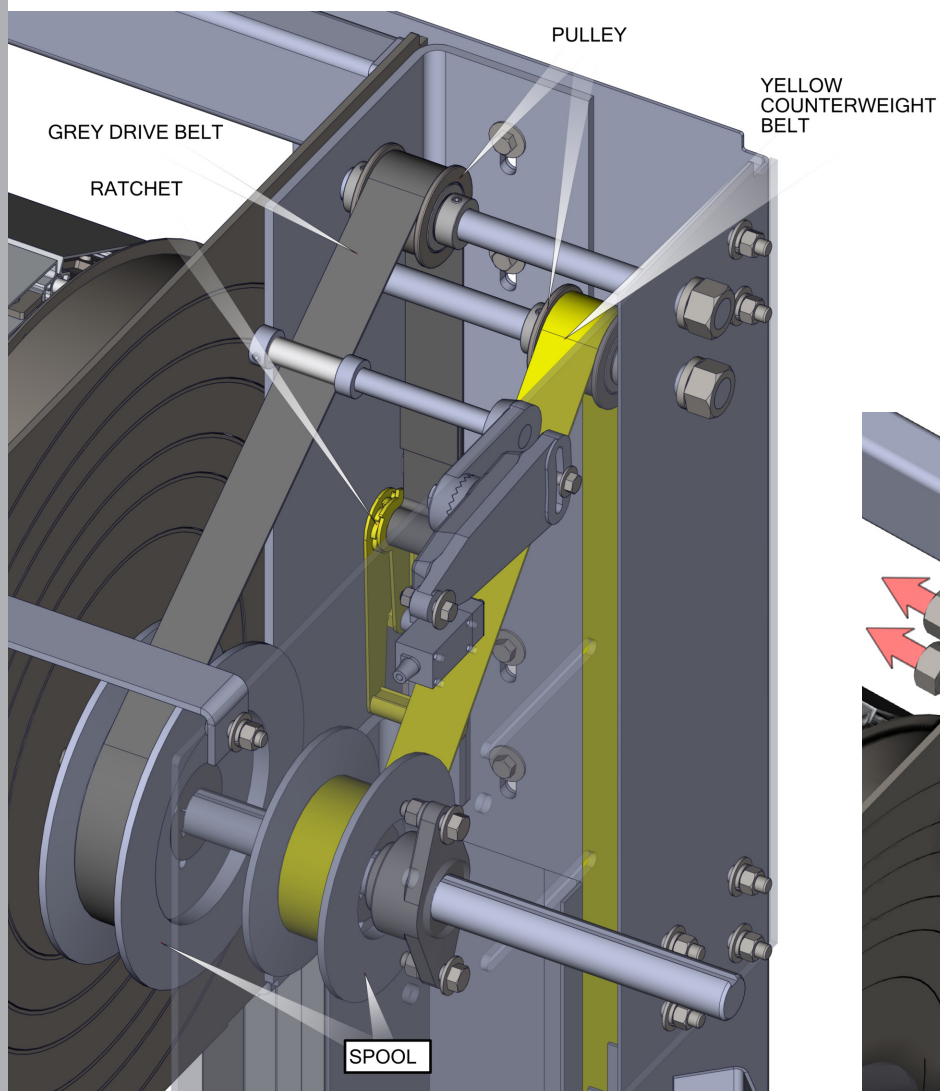
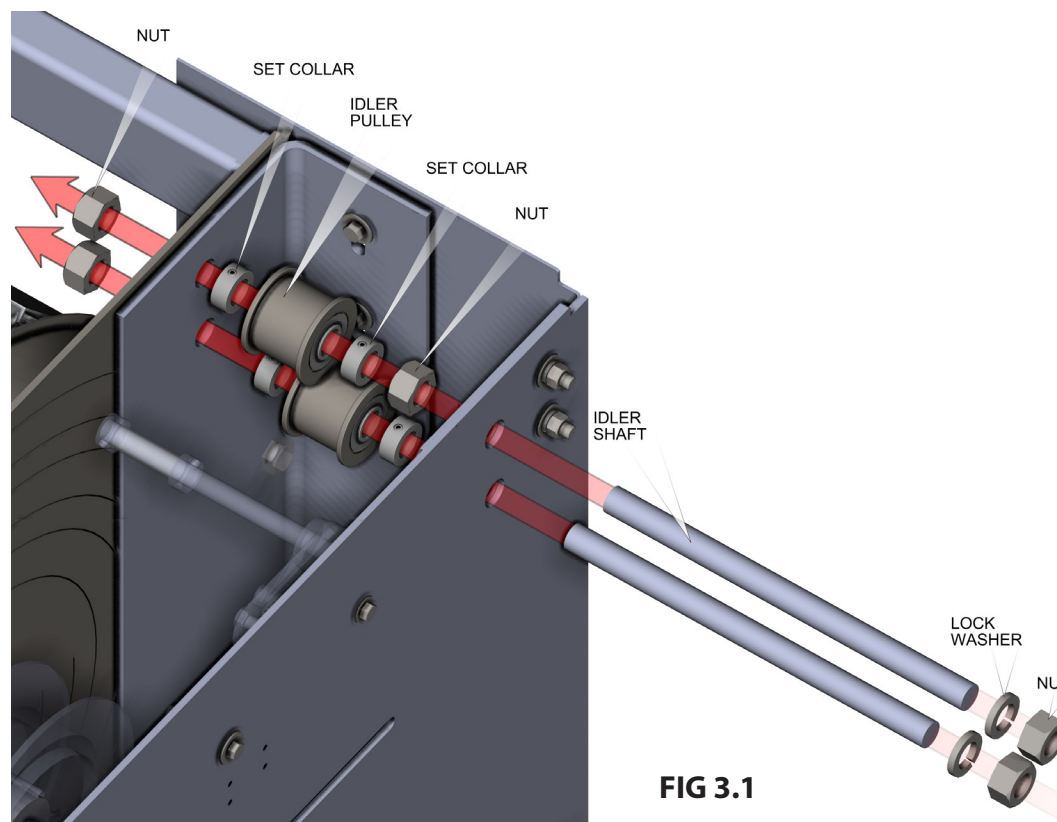

FIG 3.0
FIG 3.1
3. Loosen the set screw in the set collars. Remove the hex nuts from the idler assemblies. Remove the yellow counterbalance belt and set aside. Loosen and remove grey drive belt from ratchet. Remove the grey drive belt and set aside. Remove idler assemblies and set aside, as shown in FIG 3.0 in FIG 3.1.